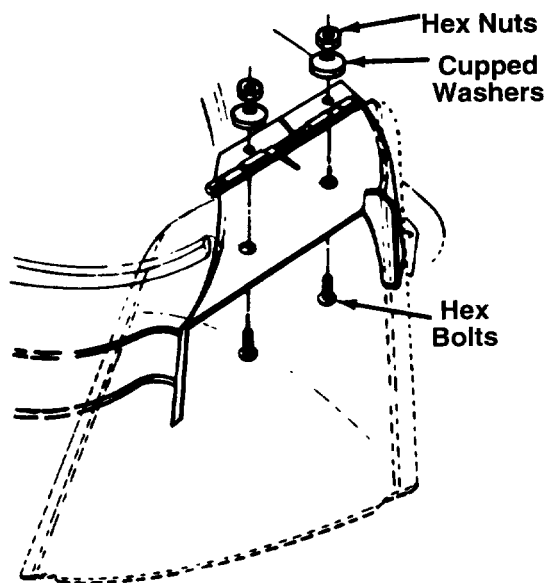

FIGURE 7.
2. Place the chute deflector in position as shown in figure 7. Secure with hardware just removed. Cupped side of washers goes against the chute deflector.